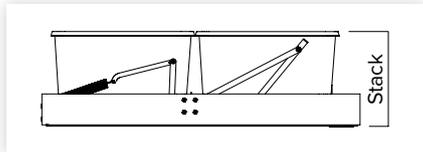

figure 8
- The area for the opening must be clear of wiring, plumbing and structural members such as beams and trusses and allow a minimum stack height above the ceiling (figure 8).